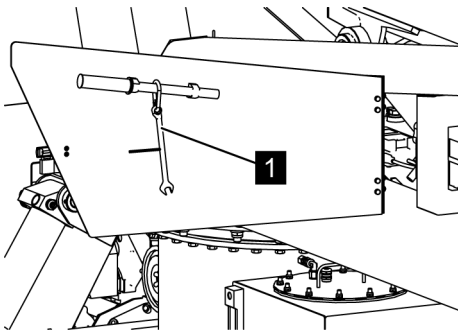

Fig. 102: Special tool
3. ➤ Remove the special tool (Fig. 102/1) (hexagon spanner with welded-on Allen wrench).